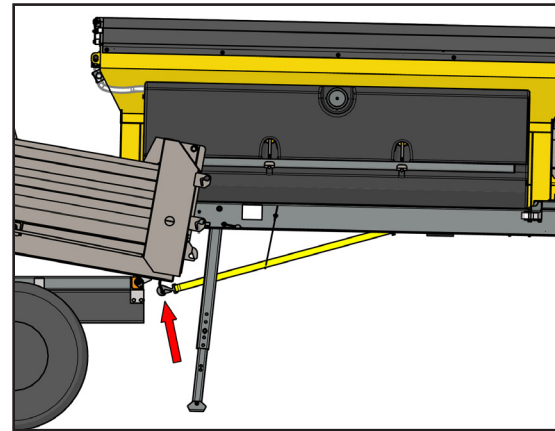

Figure 2 - Attach Safety Strap
4. Figure 2 - Attach safety strap to chassis and tighten so strap is taut. Front legs remain locked.